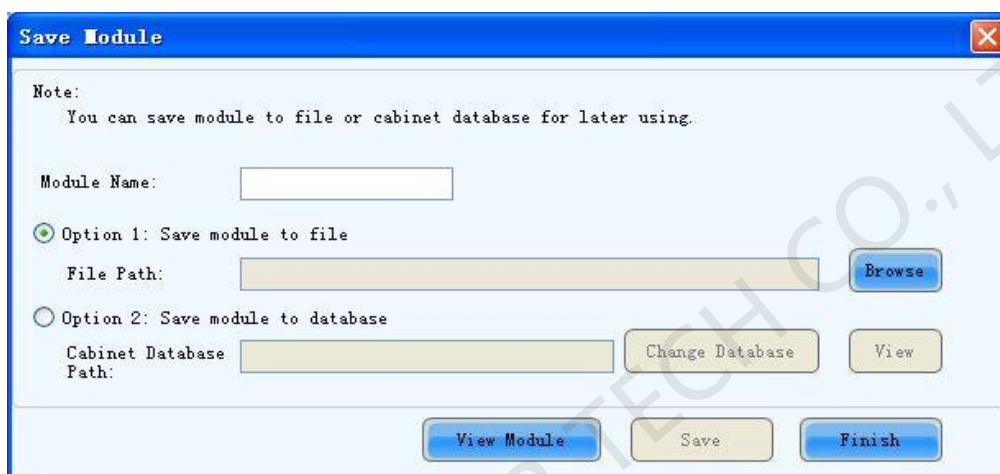

Fig. 7-11 Save Module dialog
- 9) Click "Next" In "Smart Setting Step 9" page to open "Save Module" dialog which is for saving the settings set for the module through all the smart setting steps. The "Save Module dialog" is shown in Fig. 7-11. Saving the module settings to files (module configuration files